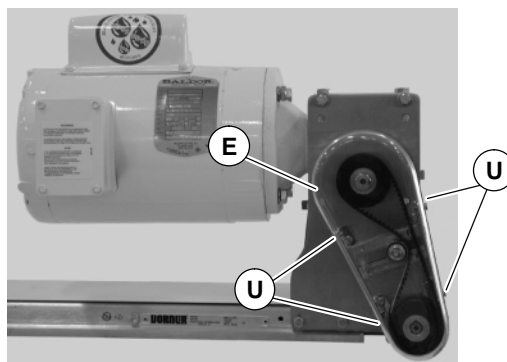

Figure 20
**NOTE:** Do not over-tighten screws (U of Figure 20).
6. Attach cover (E of Figure 20) and tighten four (4) screws (U) to 35 in-lb (4 Nm).